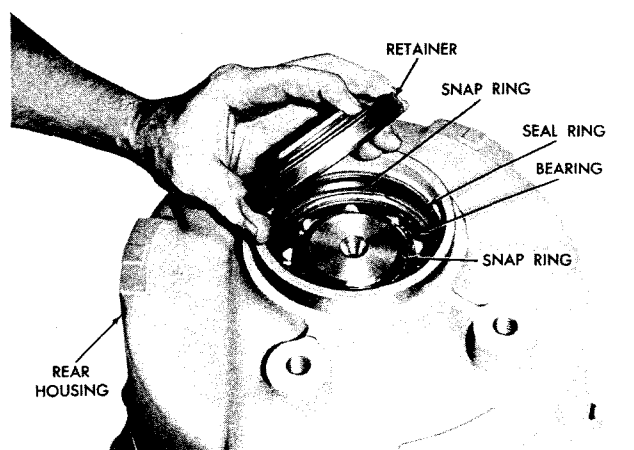

Fig. 7-14. Installing oil retainer (-1 model)
(7) If bearing 6 (B, foldout 13) was removed from shaft 5, install the bearing and snapring 7. Press the assembled shaft and bearing, splined end first, into the rear of housing 2. Seat the bearing against the shoulder in the housing.
(8) Install the internal snapring which retains the shaft rear bearing (fig. 7-14).
(9) Install the sealring into the groove in the rear bore of the rear housing (fig. 7-14). Install the retainer, chamfered side first.